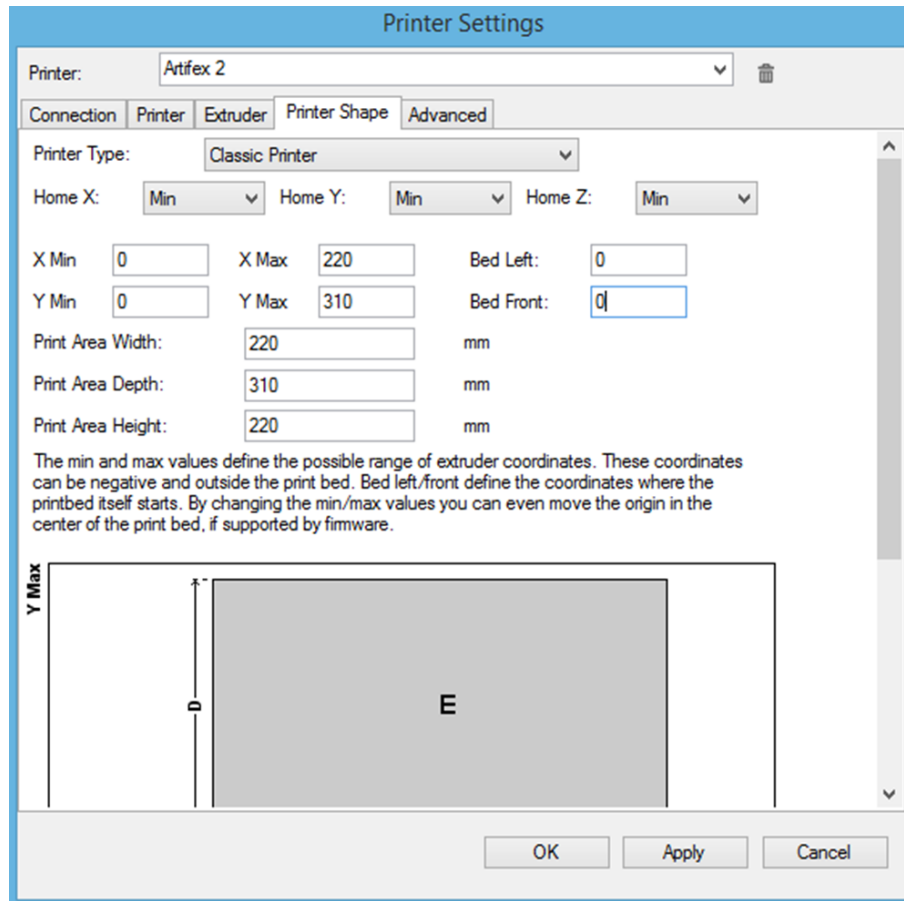

Figure 2.24: Printer Settings: Printer Shape
- Configure the settings on the “**Printer Shape**” page. (Figure 2.24)